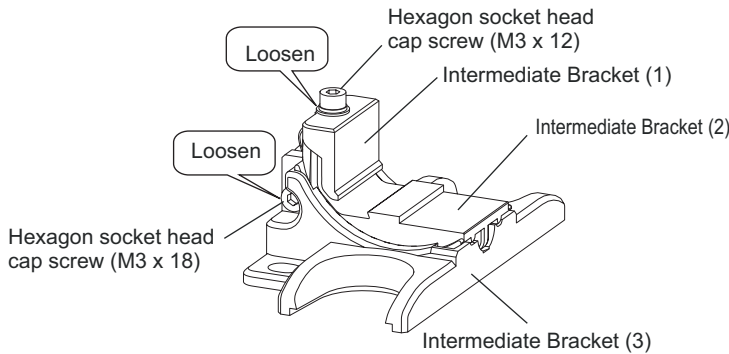

Figure 15
1. Loosen the hexagon socket head cap screw (M3 x 18) of the intermediate bracket (3) and the hexagon socket head cap screw (M3 x 12) of the intermediate bracket (1) to be able to attach the bracket to the sensor case. (Figure 15 and 16)